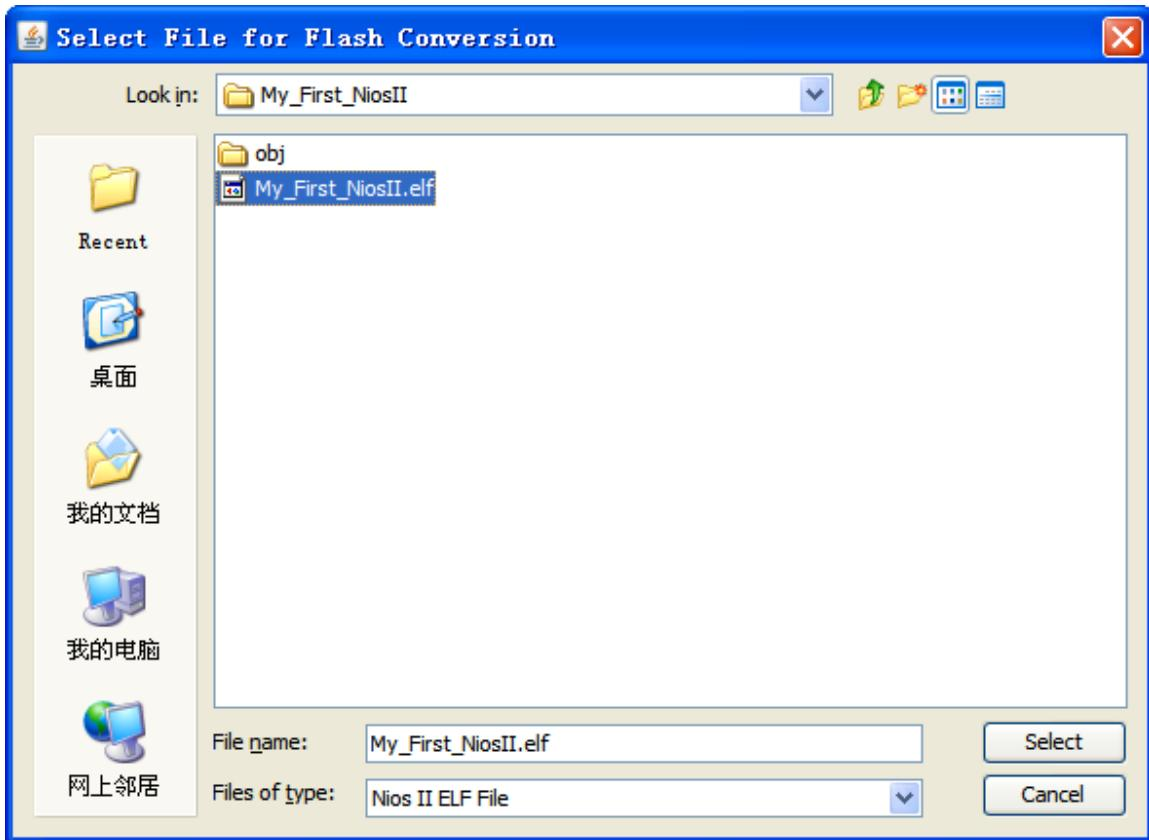

**Figure 3-26 Select SOPC Information Design File[2]**
4.Select “DE2I\_150\_QSYS.sopcinfo” file, and click Select to back as shown in Figure 3-26.